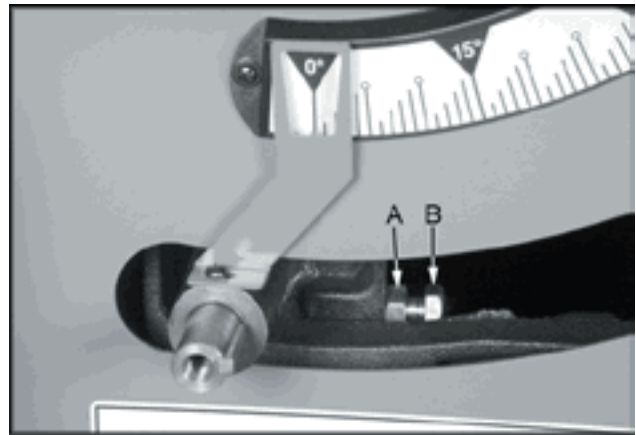

Figure 13
10. If the blade is not 45°, remove raising and lowering handwheel by unscrewing the handwheel lock and loosening the two set screws in the handwheel hub, as shown in Figure 13.
11. Loosen hex nut (A, Figure 13) and turn adjusting stop bolt (B, Figure 13) on the front trunnion in, or out. The adjusting stop screw should stop against the front trunnion bracket when blade is 45° to table.
12. Tighten the hex nut (A, Figure 13) while holding the adjusting stop bolt (B, Figure 13) to keep it from moving.